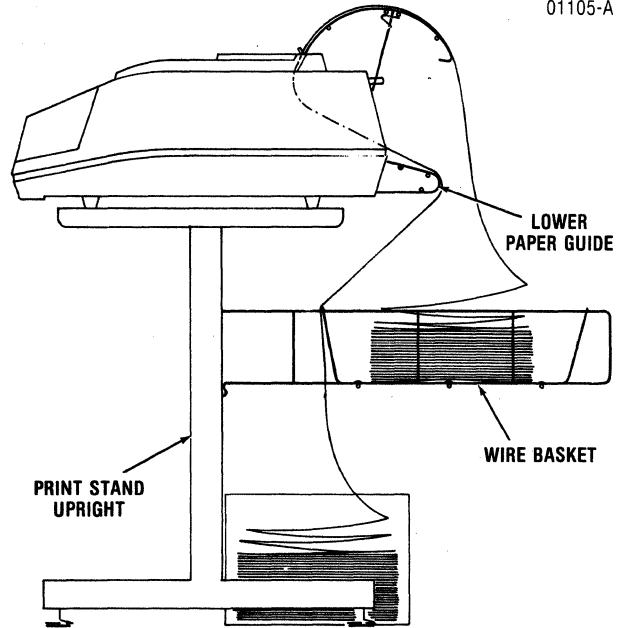

Figure 2-3 351 Printer Paper Travel
1. Refer to Figure 2-3 and position an open box of fanfold forms at the base of the print stand, as shown in the illustration.